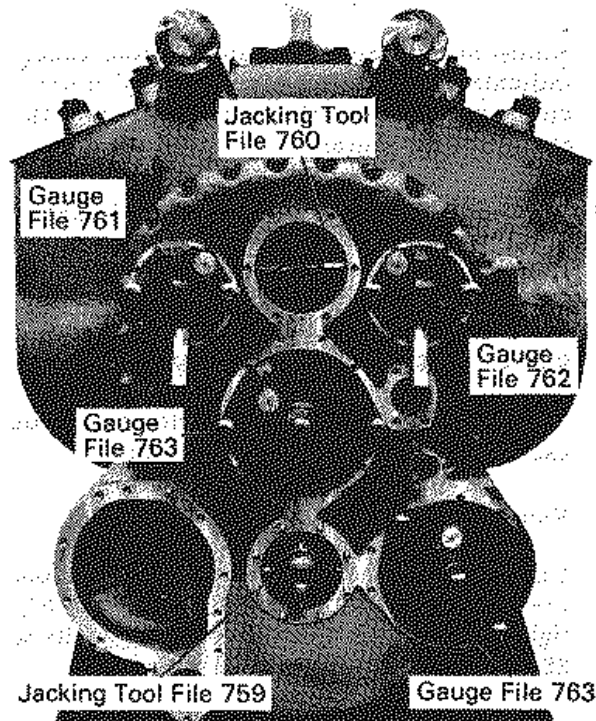

Fig. 6-11 - Accessory Drive Housing Alignment
6. Apply left-hand water pump alignment gauge (File 761) to left pump opening (right bank) in housing so that gauge gear teeth mesh with governor drive gear, Fig. 6-11.
10. Position jacking tool (File 759) over the end of the accessory drive shaft until the adjusting nuts are in line with the accessory drive opening, Fig. 6-11.
11. Insert spline end of jacking tool (File 760) into splines of the governor drive gear drive flange until the adjusting nuts are in line with the governor drive opening. Adjusting nuts should be in a horizontal position, Fig. 6-11.